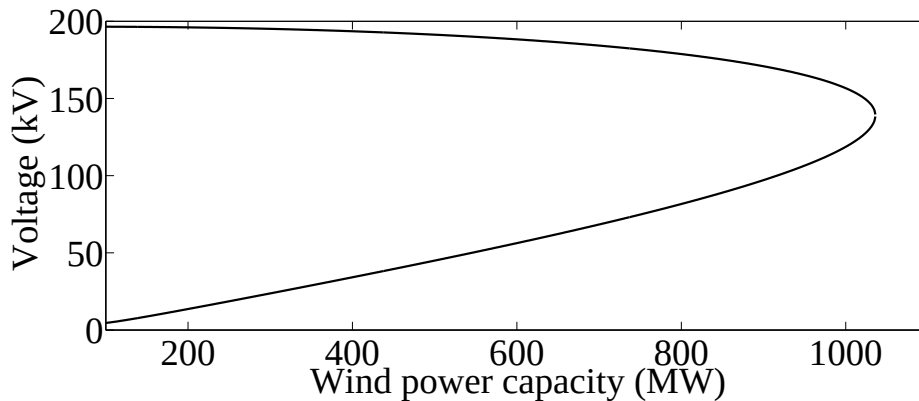
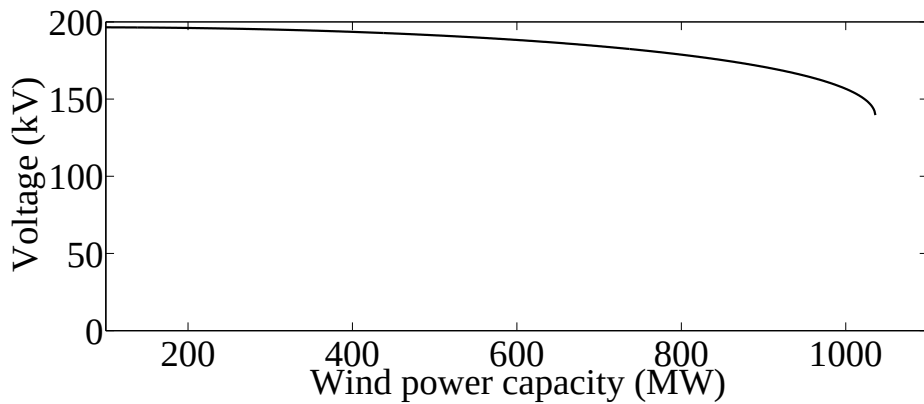
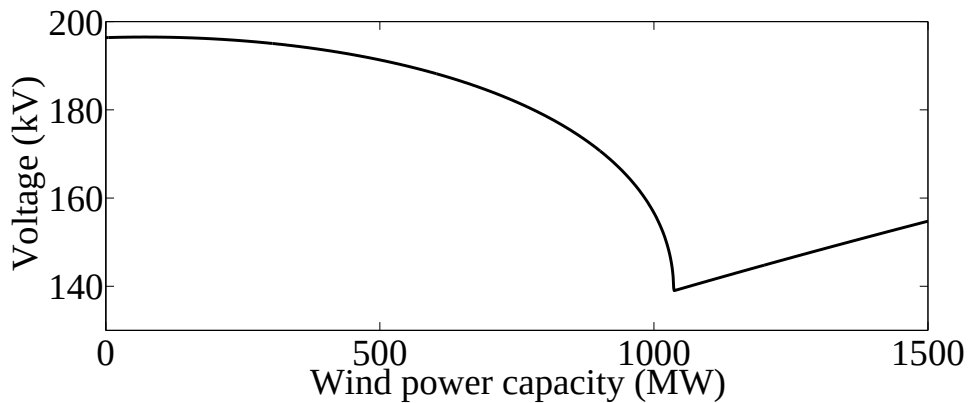

Figure 1: PV curve
Figure 2: Upper part of the PV curve
Figure 3: Wrong PV curve
The plus sign corresponds to a stable operation point, while the minus sign corresponds to an instable operation point. In reality, it is therefore always the plus sign that is used to calculate the voltage from the equation above. If the two solutions are plotted on the same curve, we would get a PV curve, also called nose curve, see Figure 1.
If we just plot the upper part of the curve that corresponds to the solutions of interest – the stable solutions (with the plus sign in Equation (1)) –, we would get the curve in Figure 2.
Now, some of you got curves that looked like Figure 3. If you use Matlab, you would get a warning when you plot such a curve. The warning looks like:
If you compare the right curve in Figure 2 and the wrong curve in Figure 3, you see that there is a part that goes up after 1000 MW in the wrong curve. This part is wrong. For all the points on this part of the curve, Matlab will issue a warning such as the one above. These points correspond to imaginary values of U_k , i.e. when Equation (1) does not have any real solution. These points do not correspond to any physical possible situation for the electric system. This means that the electric system can never reach a point on this part of the curve. What would happen in reality is that as soon as we reach the "nose" of the curve in Figure 1, the system becomes unstable, and the voltages collapse along the lower part of the curve.
- See the comment about Figure 3 above. The part going up in the end after 1000 MW should not be included in the plot.